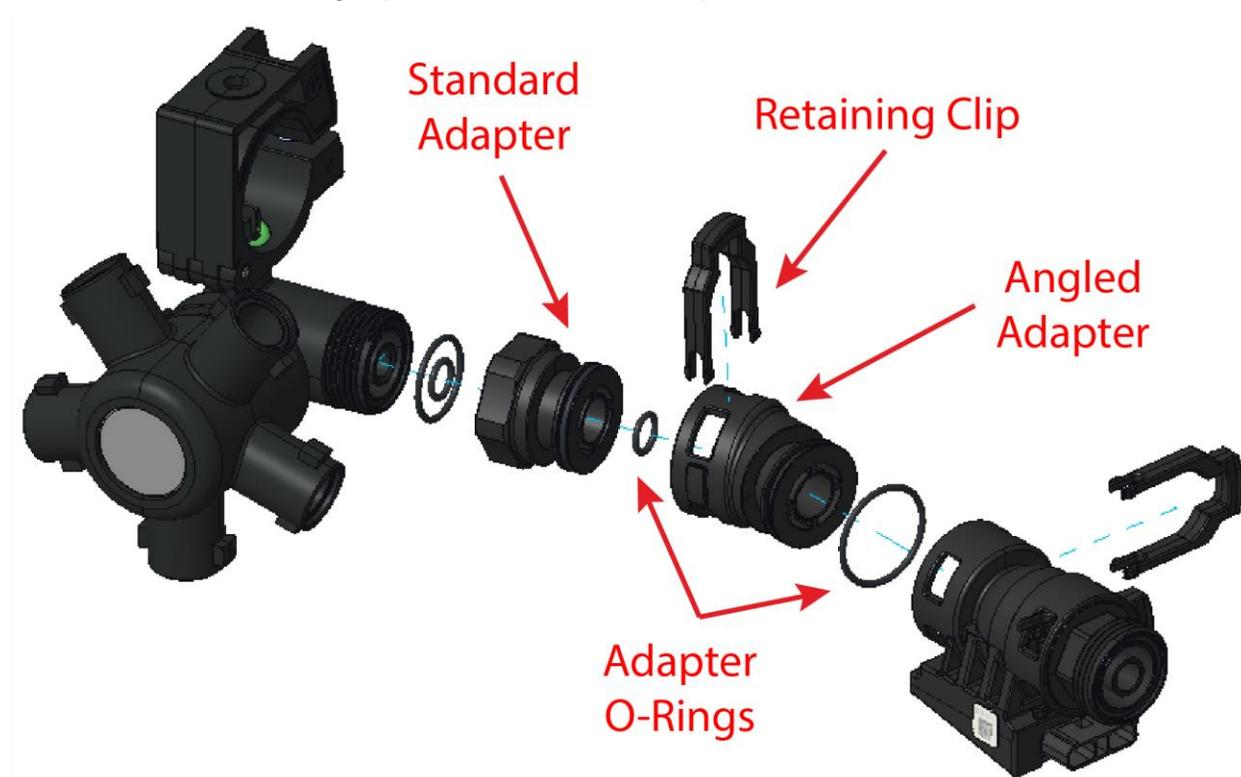

Figure 4: Installing angled adapters
2. Install the small o-ring on the inside of the adapter, and install the large o-ring on the outside of the other side of the adapter (as shown in Figure 4).